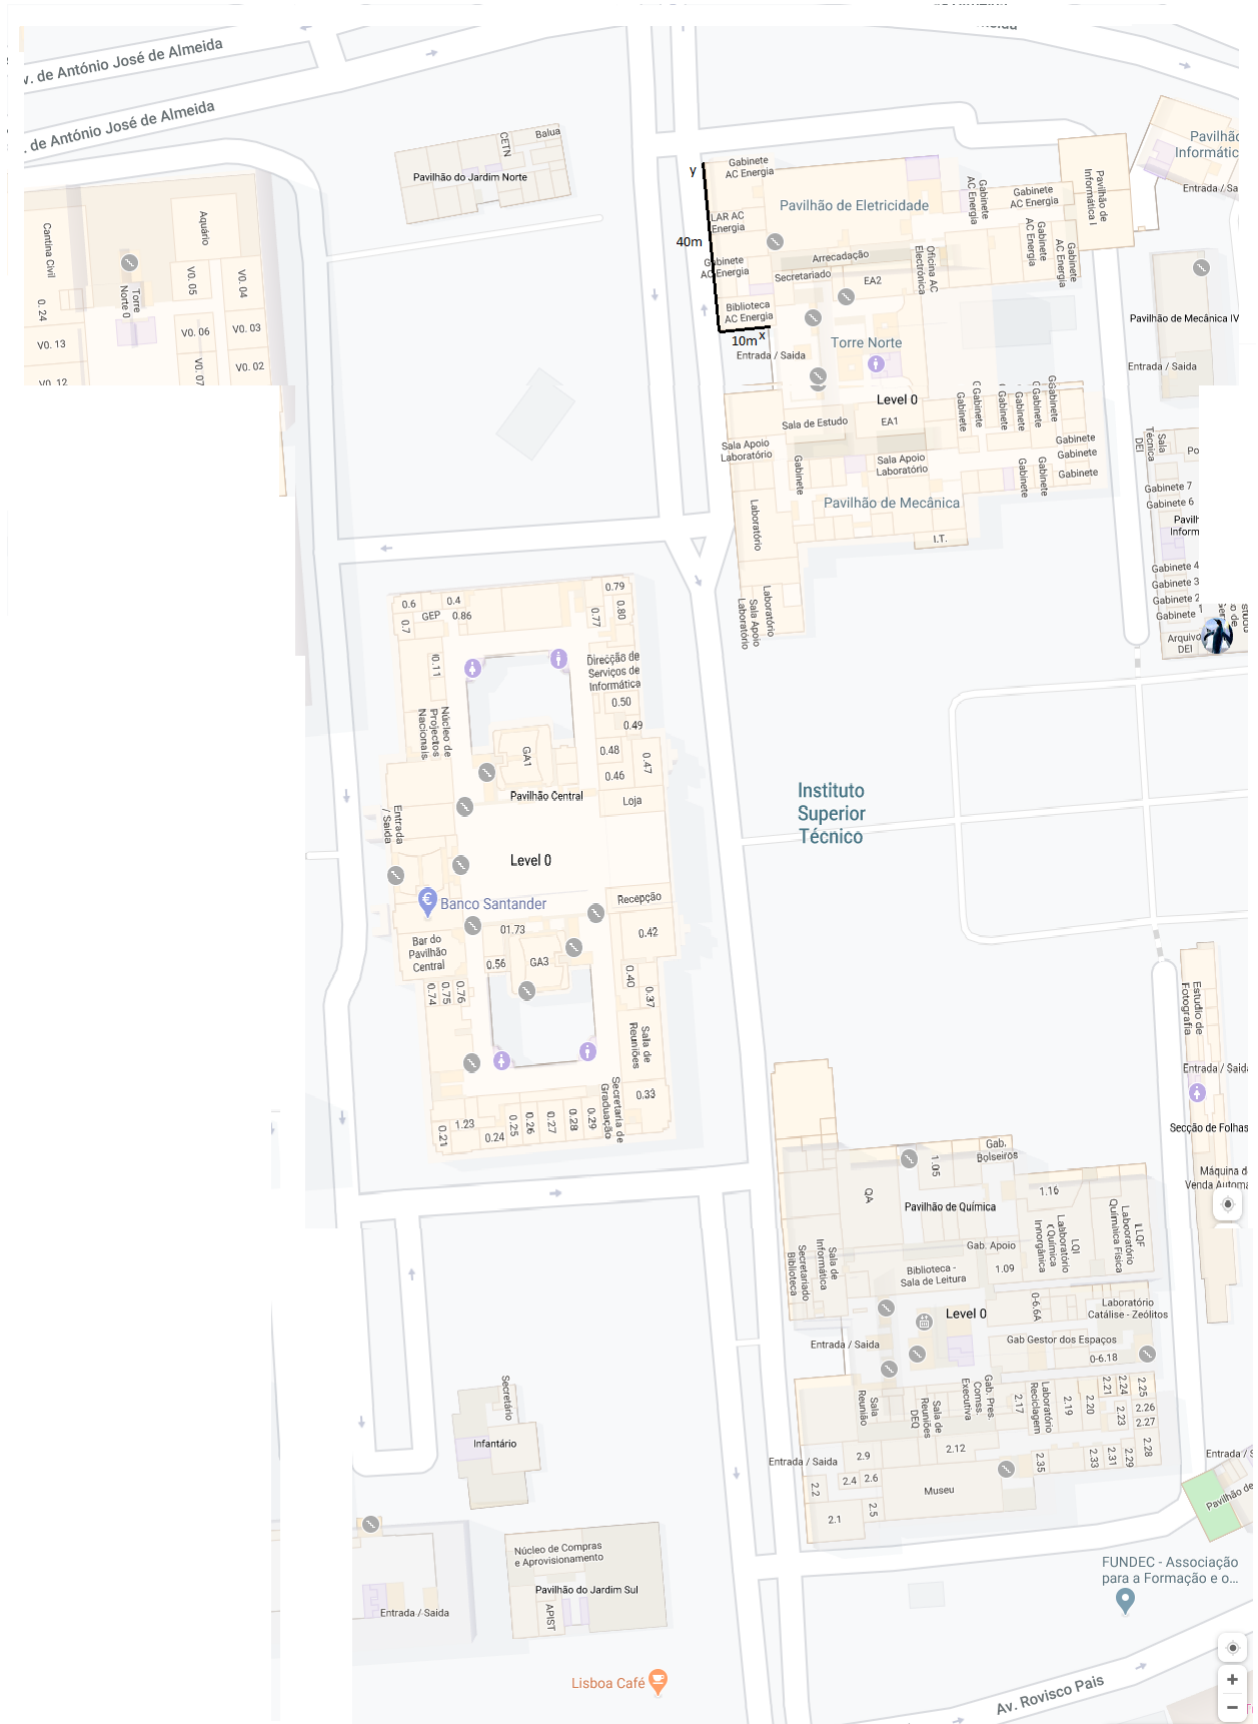

Figure 2: IST Alameda campus
that will be used in the role of an Autonomous Car (AC), to navigate around IST-Alameda campus (see figure 2 – this file is also available at the course webpage). Table 1 shows the specs of the car.